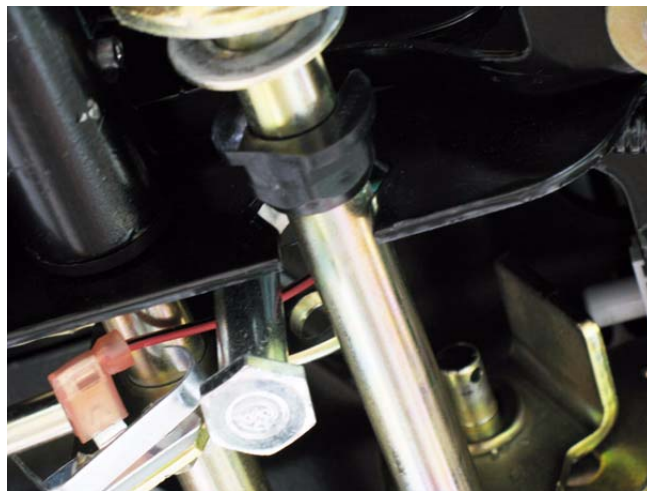

Figure 3.17
6. Remove the split bushings. See Figure 3.17.